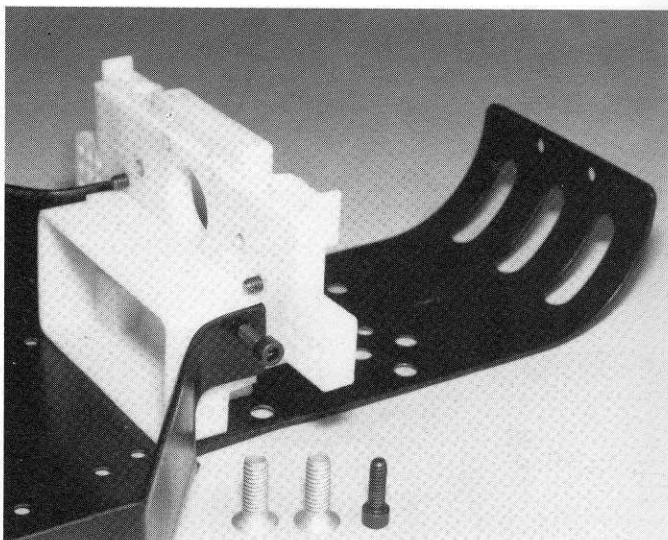
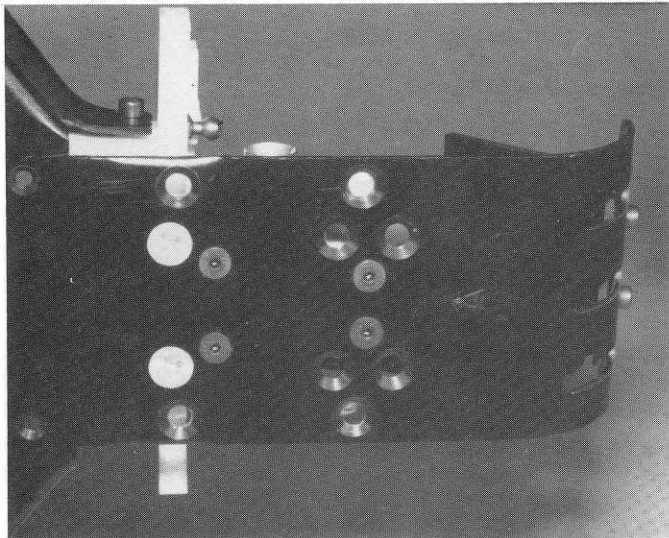

Fig. 79
Fig. 85
□ **Figs. 79 & 80** Install the rear bulkhead in the chassis, as shown, with the two #6280 8/32 x 1/2" aluminum screws and two #6925 4/40 x 1/2" SHCS screws. Do not tighten these four screws yet. We need to be able to shift the bulkhead slightly. We tighten the screws later in fig. 85.
□ **Fig. 85** Lightly snug all the screws in figs. 79, 80, 81, 82, and 83. Now go back and tighten all those screws, being careful again not to overtighten the ones in plastic.